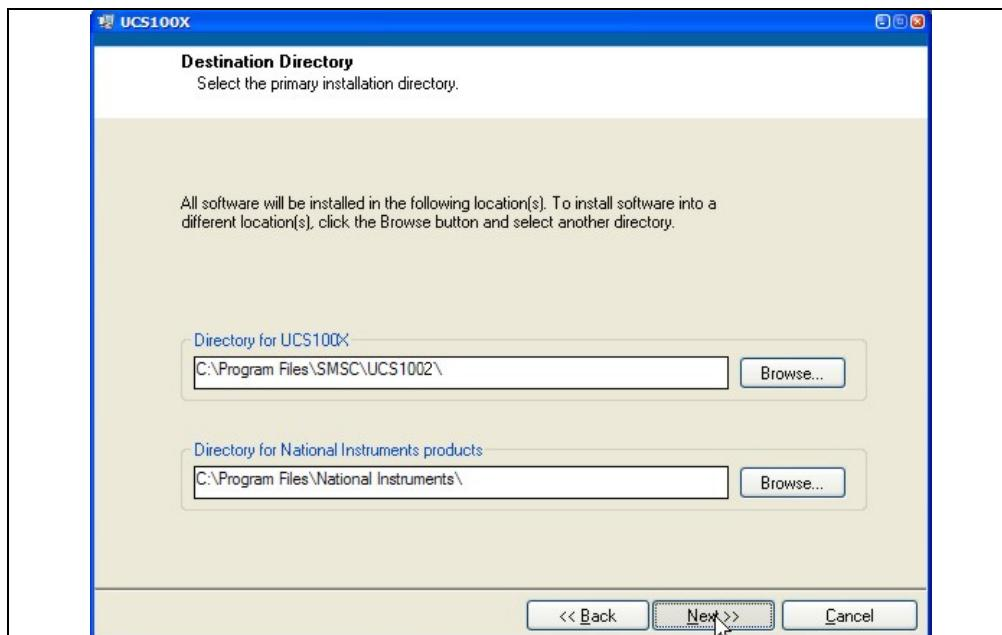

FIGURE 2-7: Software Installation – Setting the Destination Directory.
2. Click **Next** in the Destination Directory window, as shown in Figure 2-7. For proper operation, the files must be installed in the default locations. The default location for the software files is `C:\Program Files\SMSC\UCS1002\`, while the default for the LabVIEW software is `C:\Program Files\National Instruments`.